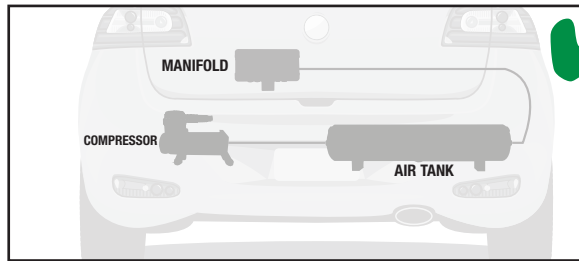

fig. 1
1. Plan component location first. Ideally, the manifold should be located at a level above the compressor and tank to avoid compressor ingested water from gathering in the manifold (fig. 1). This is most important for vehicles operated in below-freezing climates.